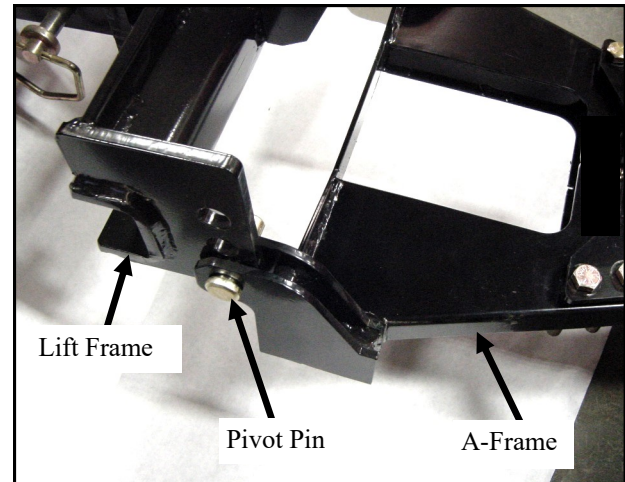

Fig. 7.1 A-Frame and Lift Frame Mounting Tabs
- 7.1 Apply grease to the pivot holes in the rear of the A-Frame and the lower Lift Frame. See fig. 7.1.